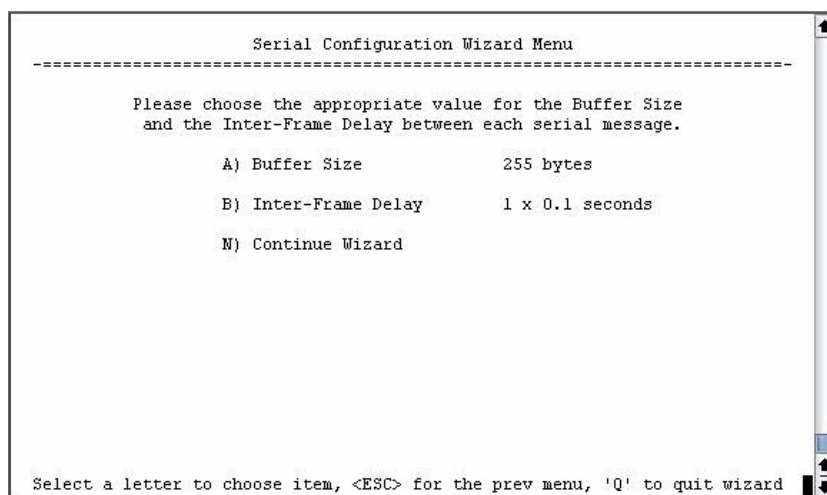

Figure 3-59. Buffer Size and Inter-Frame Delay Values
6. The screen shown in Figure 3-59 appears next. Press **A** to select the Buffer Size of message packets, and **B** to select the Inter-Frame Delay. Press **N** to continue with the wizard.